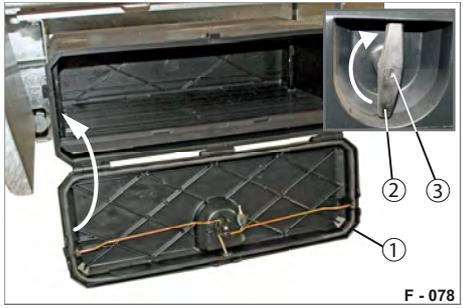

Fig. 104 Closing the toolbox
- ▶ Swing the lid (Fig. 104/1) up.
- ▶ Turn the handle (Fig. 104/2) clockwise.
- ▶ Lock with the key (Fig. 104/3).